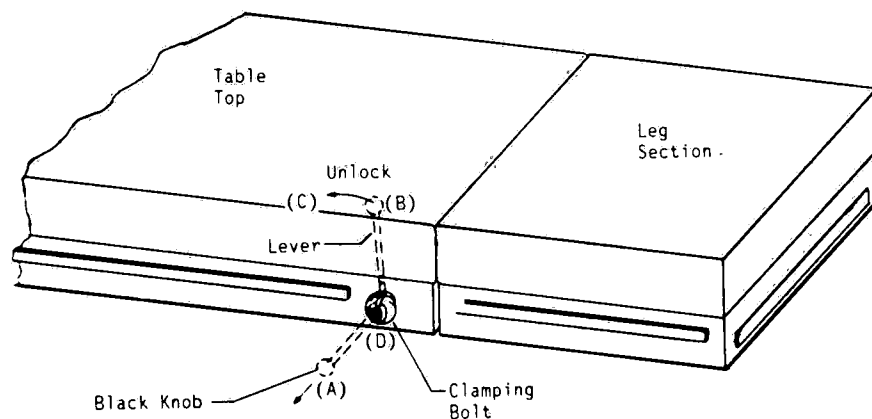

Figure 2-2. MOVABLE LEG SECTION
7. Raise leg section and lock in place as follows (see Figure 2-2):